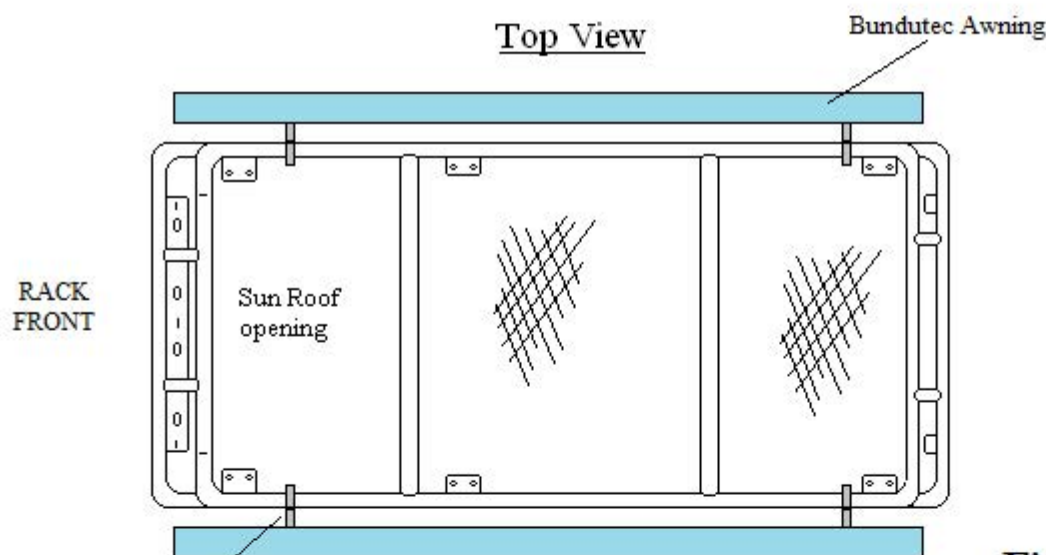

Fig. 1
The Bundutec Awning can be installed on either side of the Gobi Stealth roof rack. Refer to Fig. 1 and Fig. 2 below for placement of support brackets (A) make certain to space brackets as far apart as possible for best results space apart approximately 74.5".